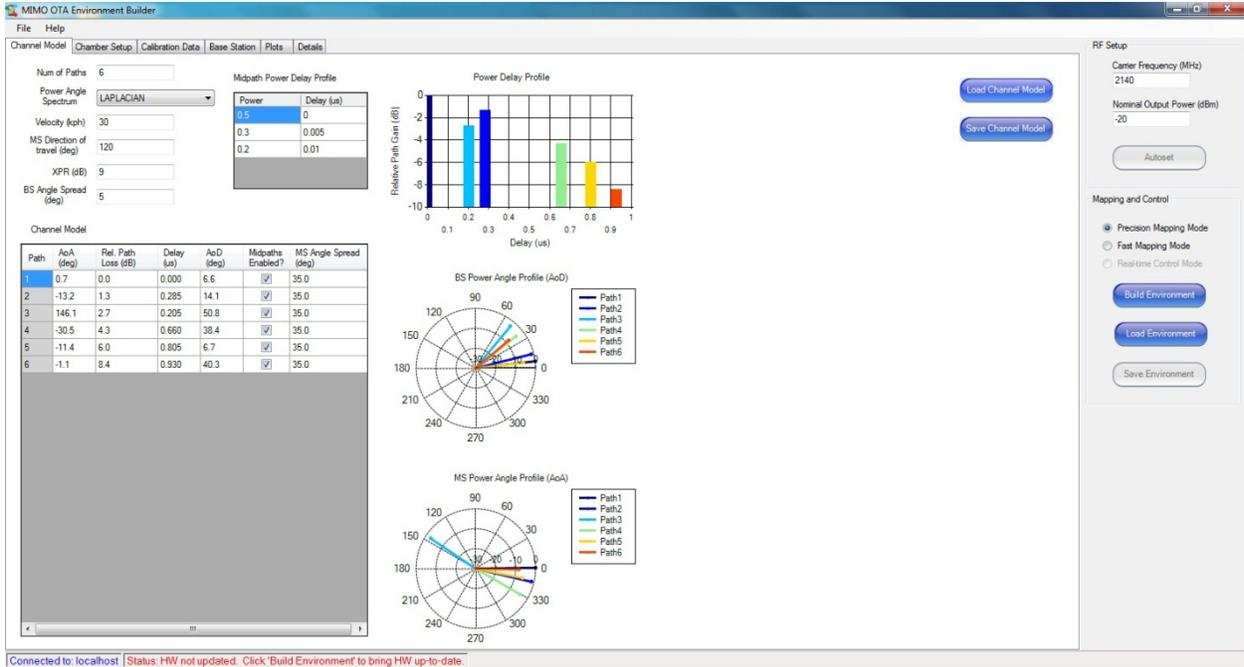

Figure 3-3: MIMO OTA Main Window
5. The MEB launches, as shown in Figure 3-3.
## 3. The MIMO OTA Environment Builder launches, as shown in Figure 3-3.